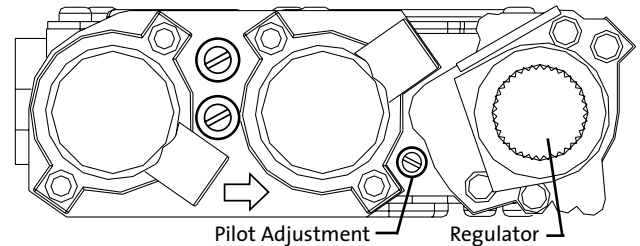

Figure 37. Manual flame regulation.
3. **MANUAL BURNER ADJUSTMENT:** This stove is equipped with a variable gas control valve that allows manual adjustment of the flame height and heat output. To adjust the flame intensity, rotate the regulator knob, Fig. 37. Flame height will adjust approximately 50% between the LOW and HIGH settings.